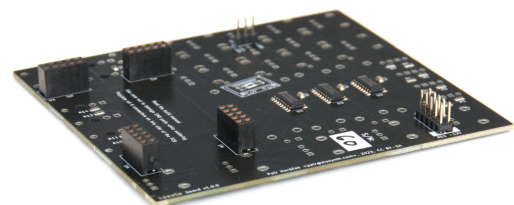

Figure 3: The power, I2C and submodule connectors
4. Once done, carefully detach Daisy Patch Submodule to prevent it from getting damaged while progressing with the build. It may be a little difficult. Pull each connector by a millimeter at a time. The result is illustrated in Figure 3.